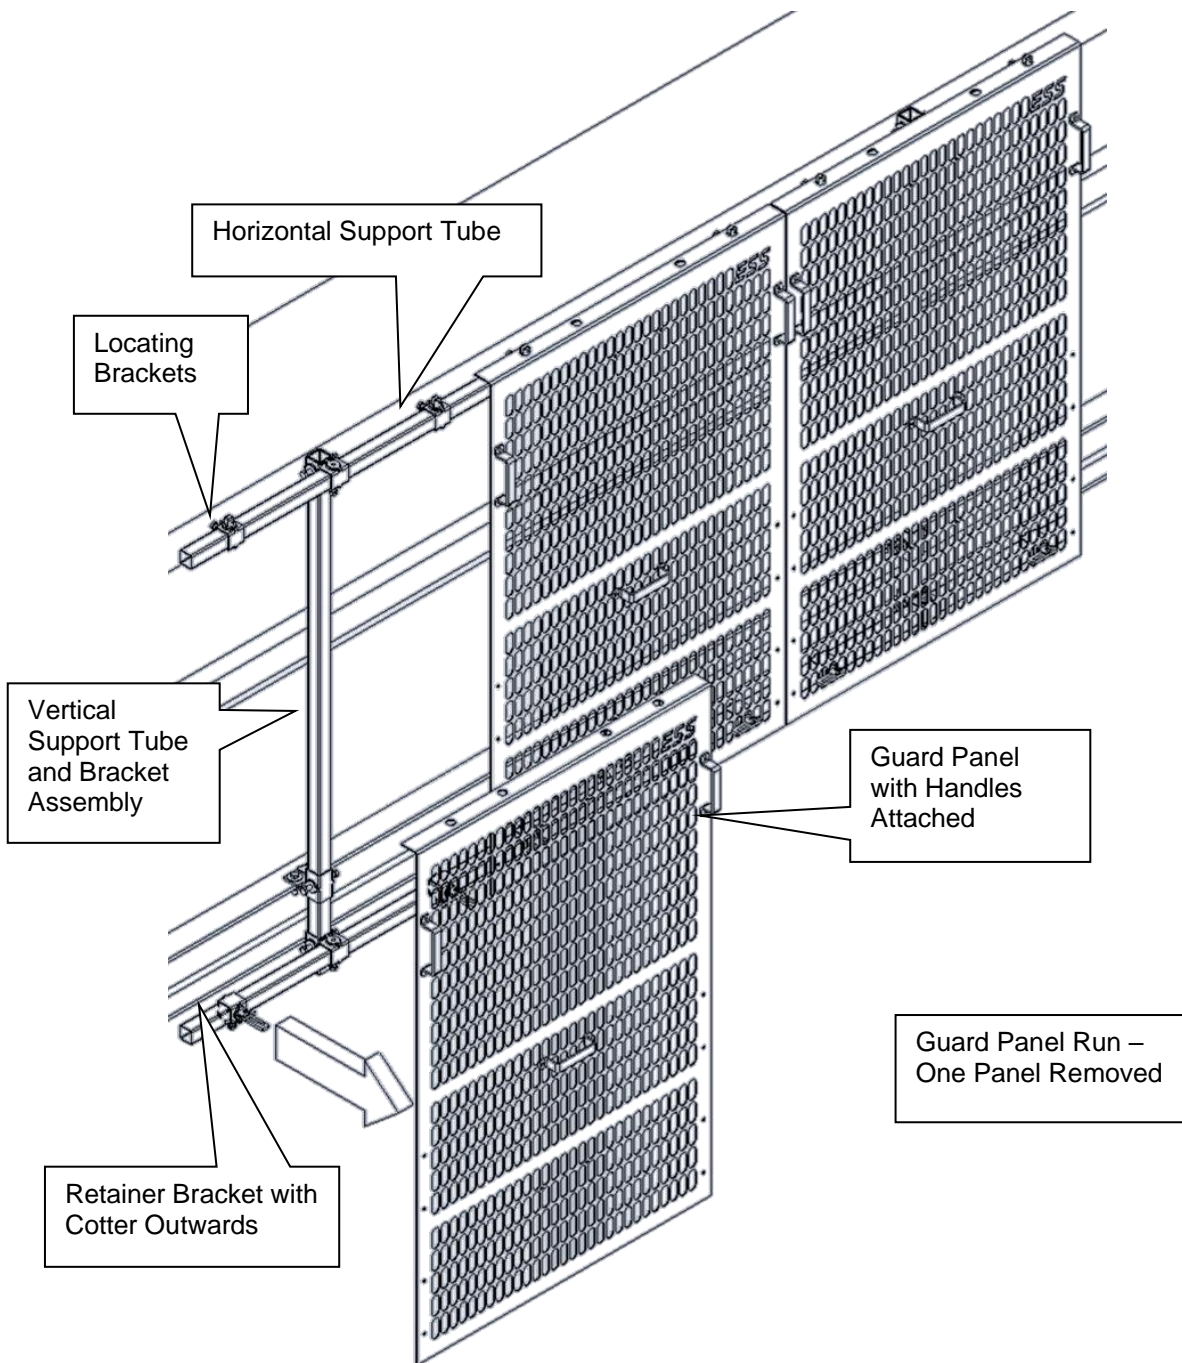

Figure 5 – Positioning the Ezi-Guard
Step 10 – Repeat steps 8 and 9 for the remaining panels in this guard run, removing previously fitted panels if necessary to secure Retainer Brackets. Ensure all brackets are secured and all panels are installed. The run of guarding is now completed and the next run may be installed – see figure 5 following. Repeat for the opposite side of the conveyor.